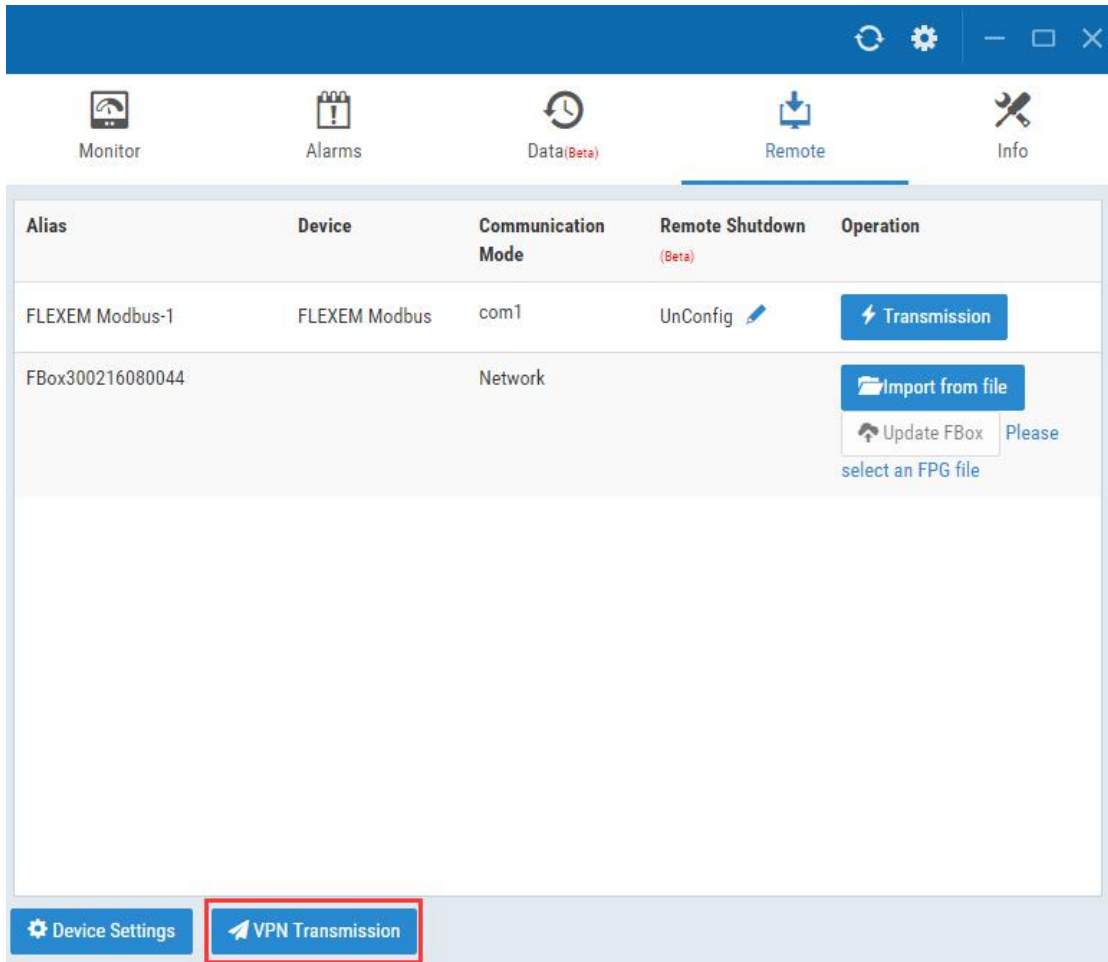

Fig. 4.9-14 VPN Transmission
(2) Open the latest version of the FBoxClient software, go into the "Remote" function page, and click the "VPN Transmission" button, as shown in Fig. 4.9-14.